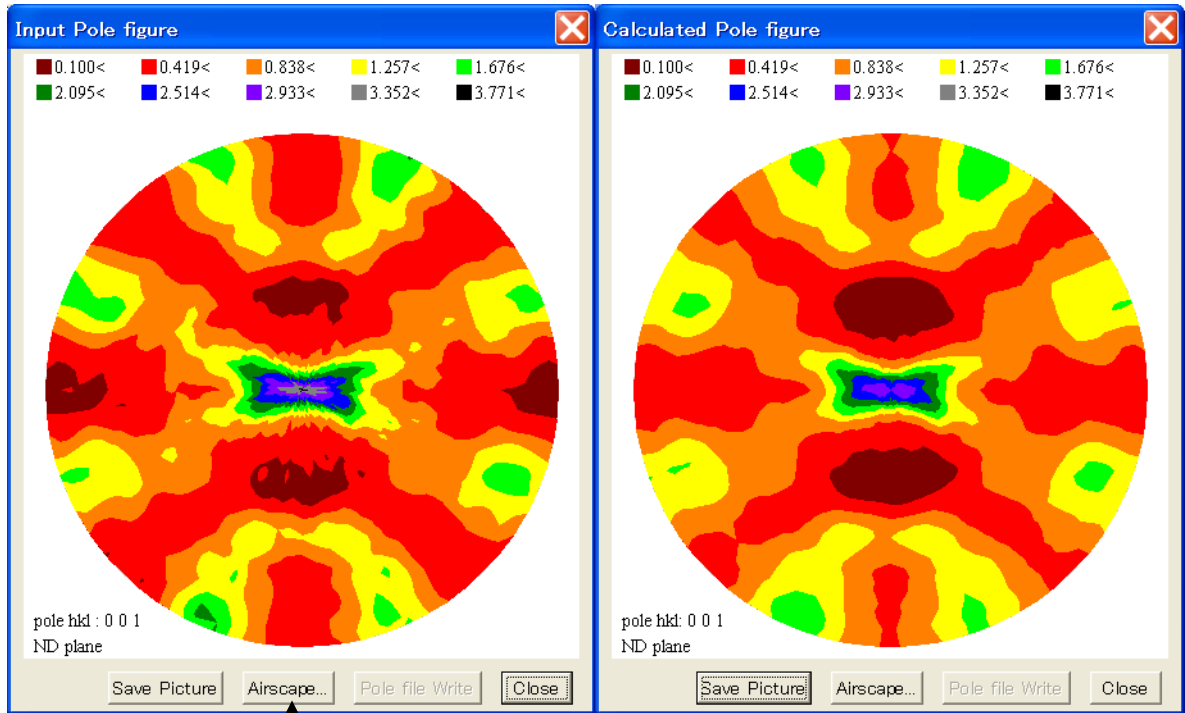

Fig. 6 Input Pole figure and Calculated Pole figure
- ⑩ Select “Input & Calculate Pole Figure” radio button.
- ⑪ When you click “Decide & Display...” button, dialogs (“Input Pole figure” and “Calculated Pole figure”) ( Fig. 6 ) are shown.